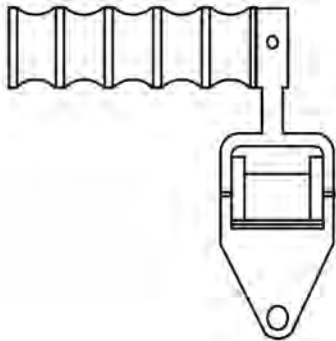

Fig. 14 – Carrying handle
16. The carrying handle (Fig. 14) serves for carrying and taking the rifle from one combat position to another.